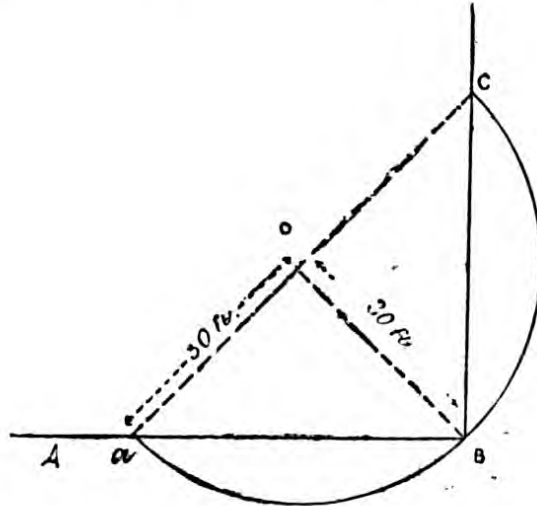

Fig. 3.
*Another Method.*—From point B (Fig. 3), with measuring tape set off 30 feet, or more or less